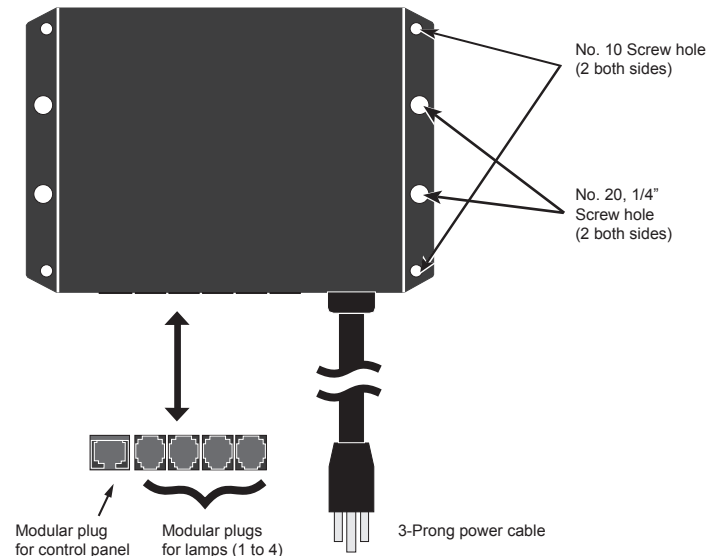
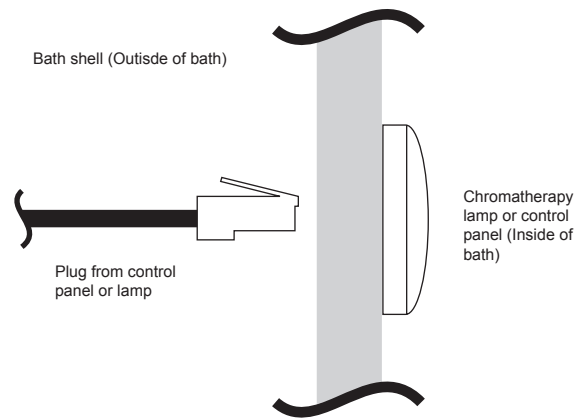

Figure 5. Control Box Connections
Figure 7. Attach plug to Chromatherapy device
Mount the control box to a stud beam or secure wall using four No. 10 screws, or four No. 20, 1/4 inch screws. The mounting holes for the screws are shown in Figure 5.
5. Attach the control cable from the control panel to the control box, see Figure 7. The proper plug for the control panel is shown in Figure 5.
7. Attach the light cable from the back of the lamp to the control box see Figure 7. The proper plug for the lamp(s) is shown in Figure 5.